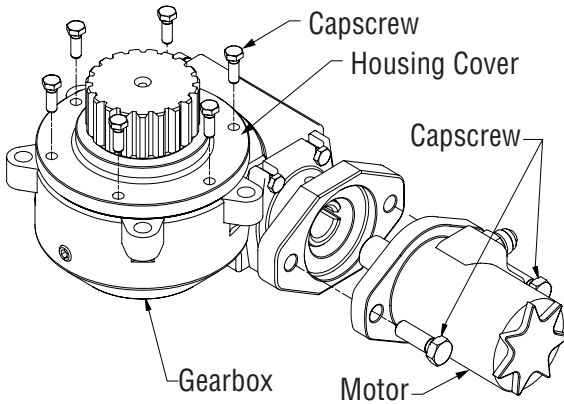

Figure 5-14, Motor/Housing cover Removal
3. Place the gearbox on a flat surface and remove the motor mounting capscrews. (Figure 5-14)